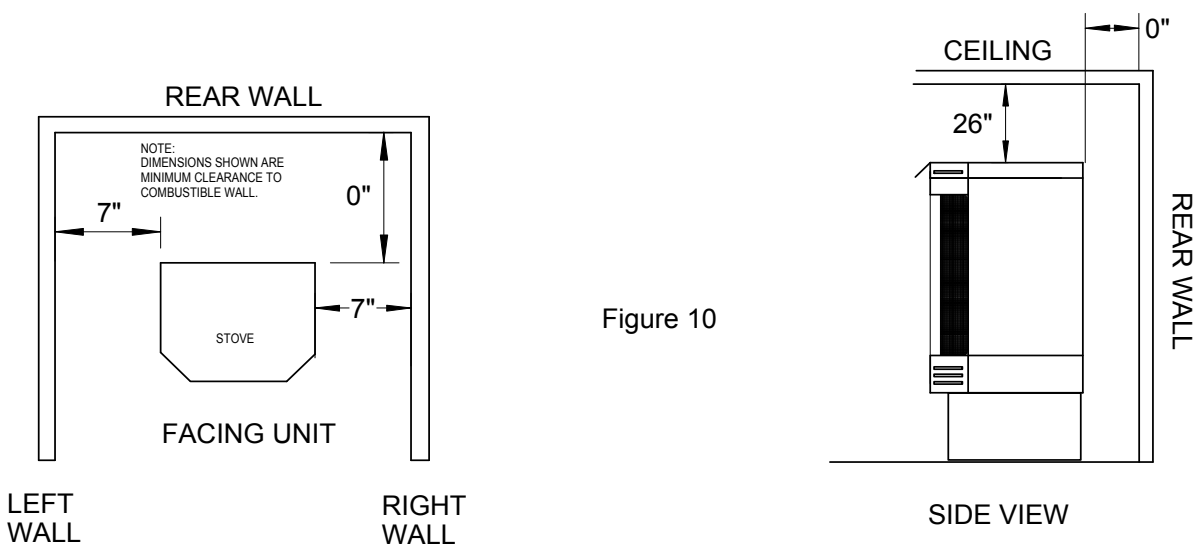

Figure 10
(1) For clearances, see Figure 10. The minimum must be met.
(2) For Installation and Gas Hookup Connection see Section II.